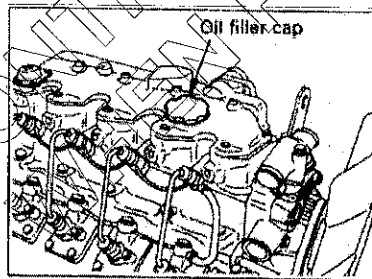

Fig 13 Oil filler cap
- (1) Wipe clean around the oil filler cap (Fig 13) taking care that no foreign particles enter. Remove the filler cap.